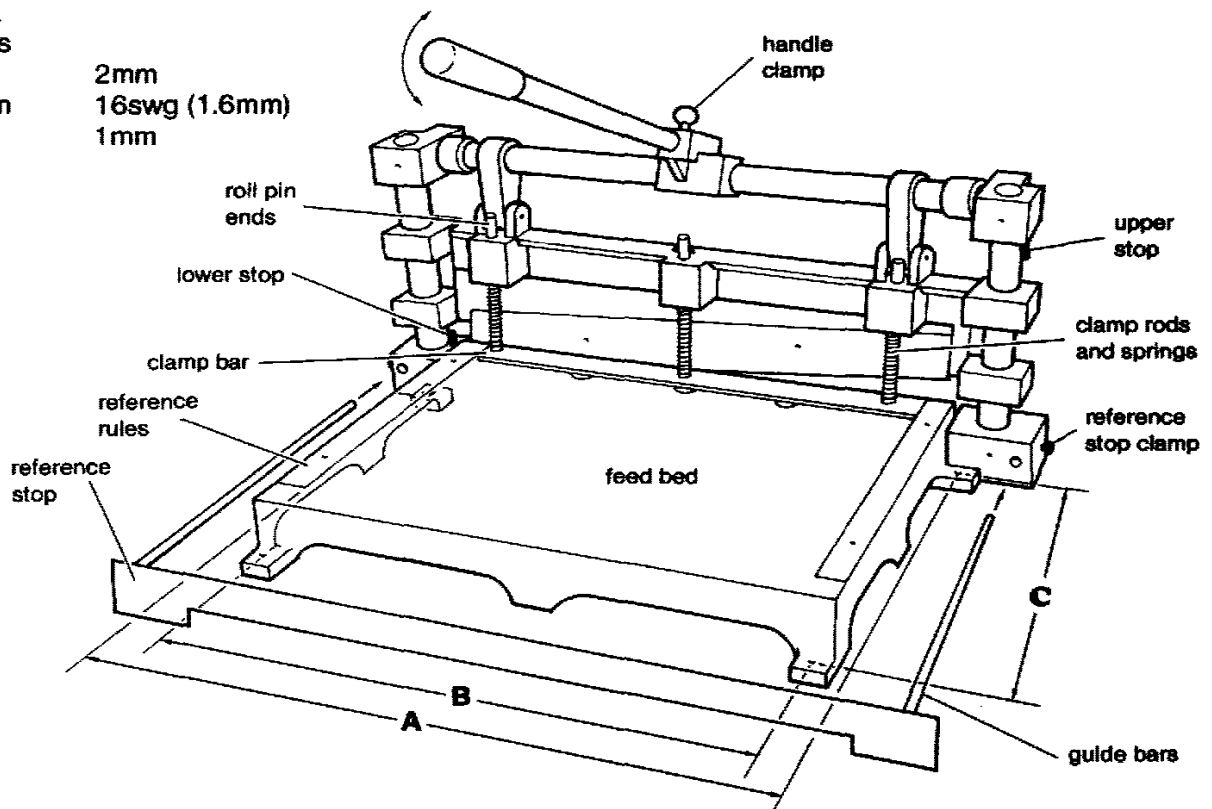

Fig. 1.
Slide the guide bars of the reference stop into the holes indicated in Fig. 1. Rest the lip of the reference stop on the feedbed surface and lock the guide bars in the required reference position using the stop clamps. The reference stop may also be used on the other side of the shear.
3. Remove clamp bar by unscrewing the clamp rods (rotating anticlockwise at the roll pin ends Fig. 1). Lift the rods out of the carriage and extract the springs and clamp bar.
10. Lower the carriage blade until point x is just below feed bed level. If necessary adjust the lower stops. (see Fig. 1).